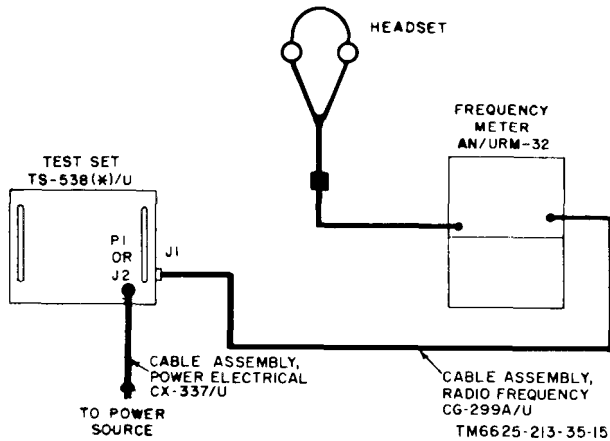

Figure 23. Test Set TS-538(\*)/U, OSCILLATOR FREQUENCY calibration, connection diagram.
e. Connect the vertical amplifier of the oscilloscope to PULSE test jack J3 of the test set (fig. 23). Connect Audio Oscillator TS-382(\*)/U to the horizontal amplifier of Oscilloscope AN/USM-50(\*).
### 35. OSCILLATOR FREQUENCY Calibration (fig. 23)
a. Connect the test set to Frequency Meter AN/URM-32 as shown in figure 23. Connect both equipments to the 117-volt ac power line. Turn on the frequency meter to allow it to warm up. Mount the antenna rod in its socket.